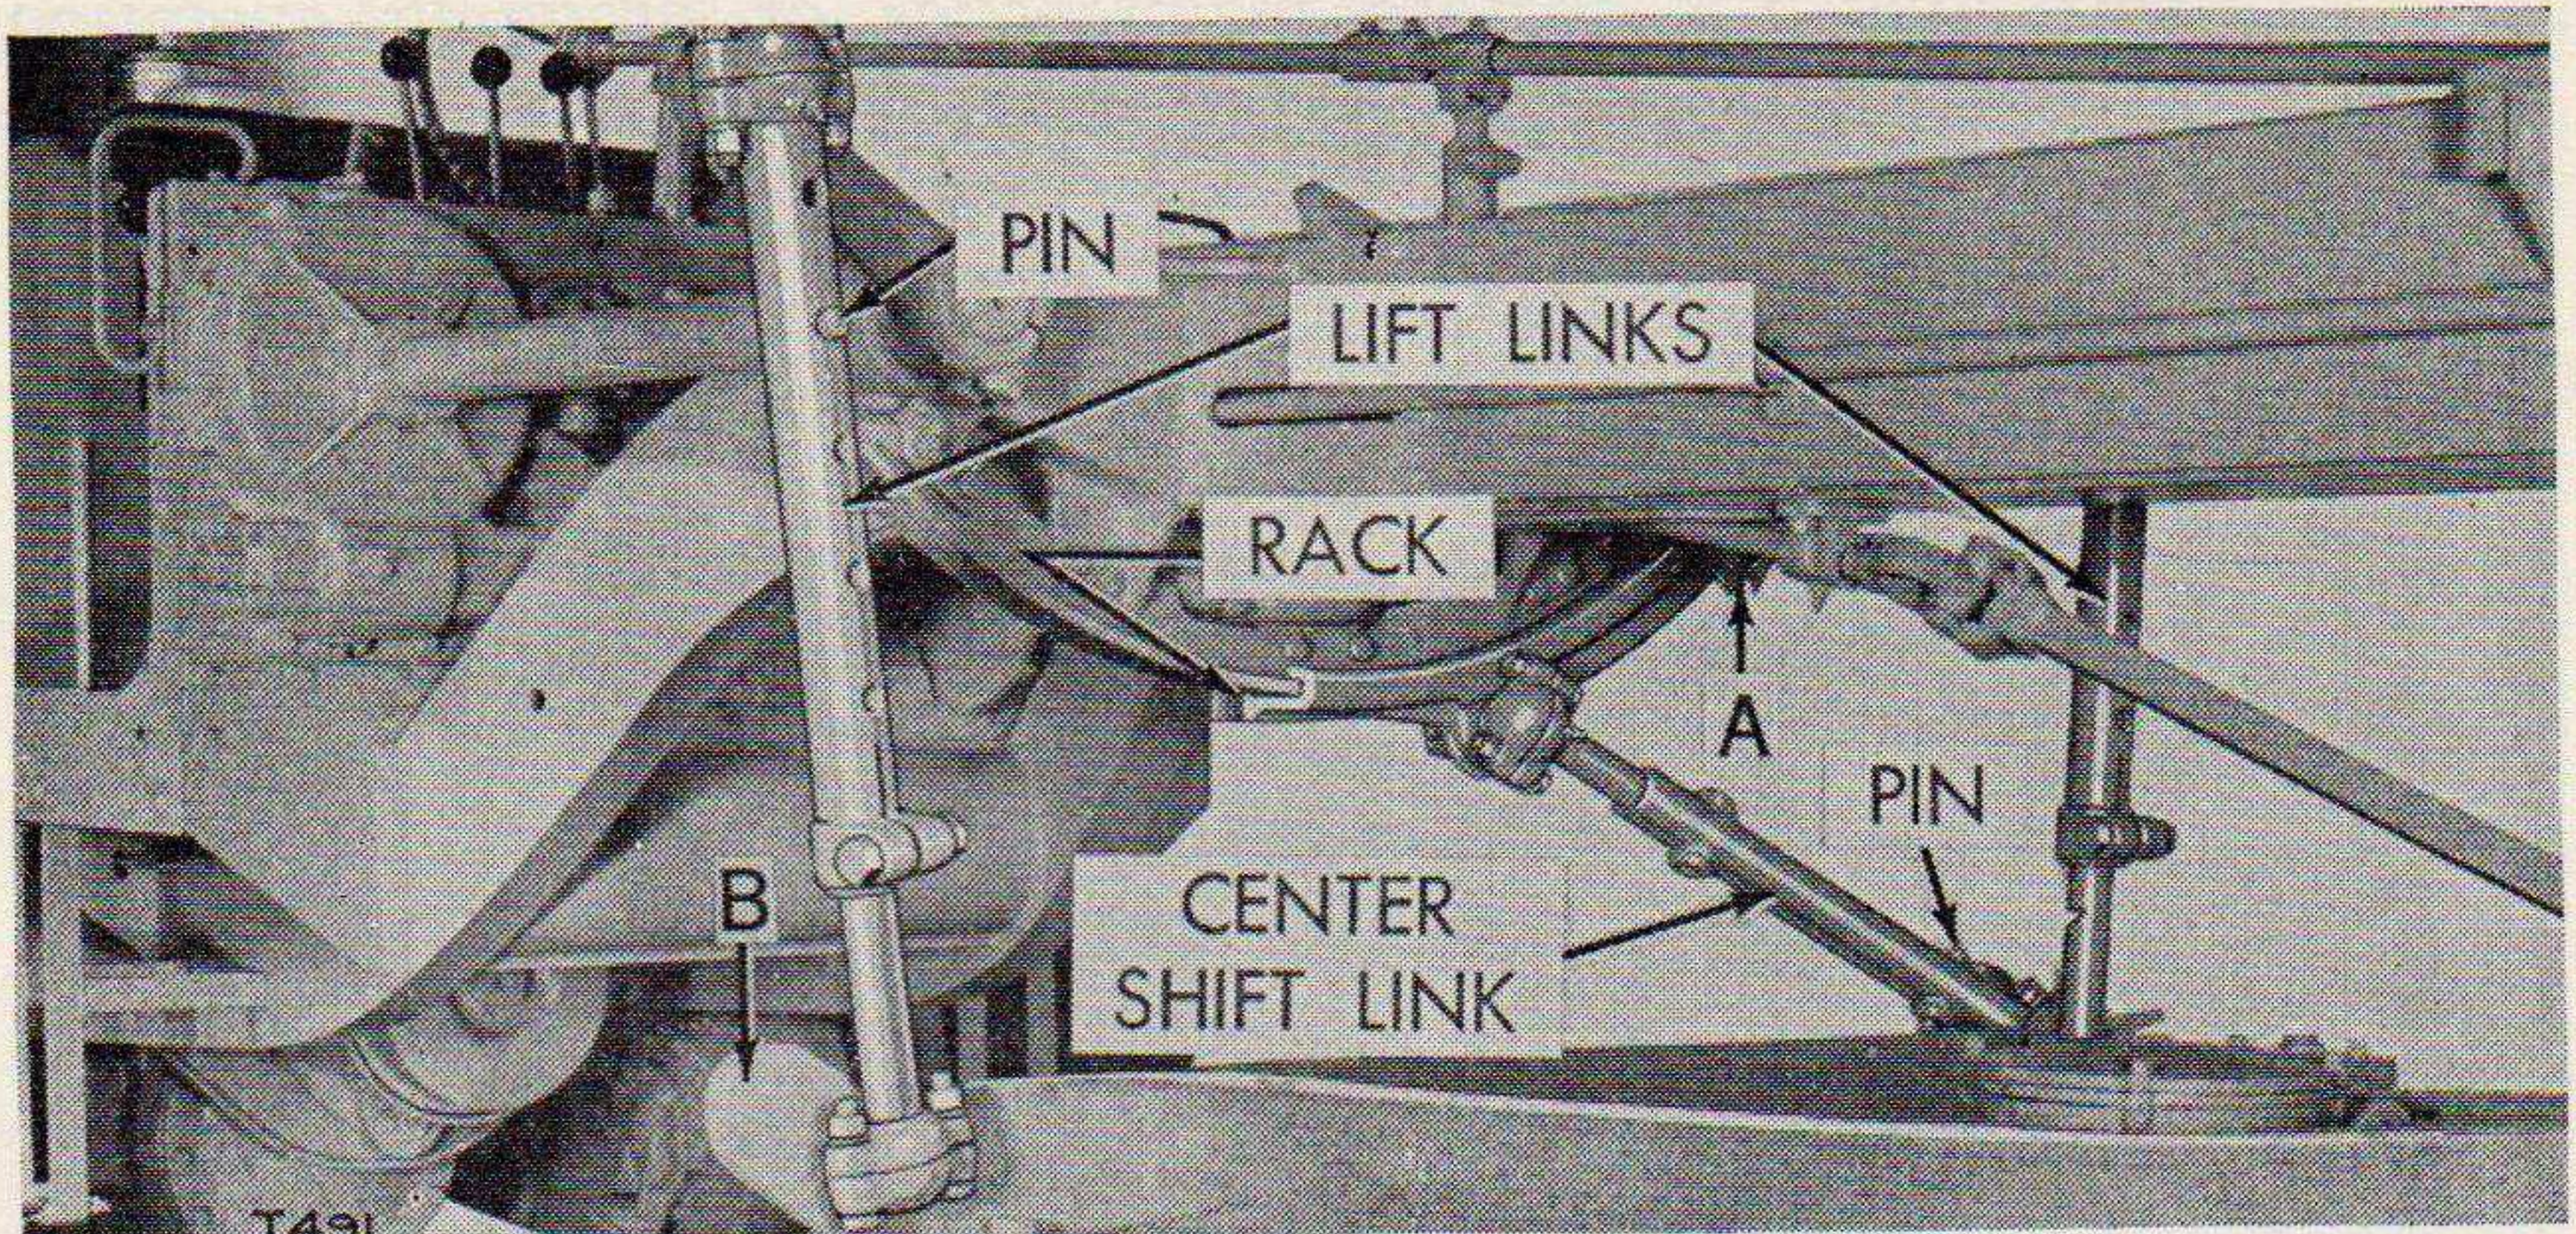

Figure 32. Blade lift and side shift link setting.
- d. LIFT AND CENTER SHIFT LINKS SETTING. (See fig. 32.)
- (1) *Lift links.*
(b) *Shifting center shift link for left bank cuts.* (See fig. 32.)
(c) *Making center shift link length adjustment.* (See fig. 32.)